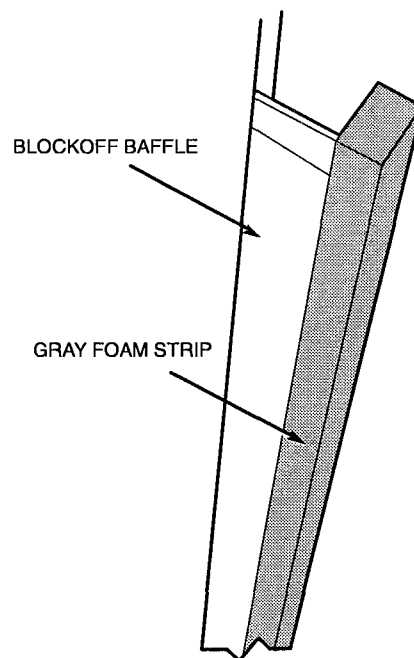

Fig. 26 — Adding Foam Strip to Blockoff Baffle
8. Attach gray foam strip (provided) to block-off baffle on outer face of flange. See Fig. 26.